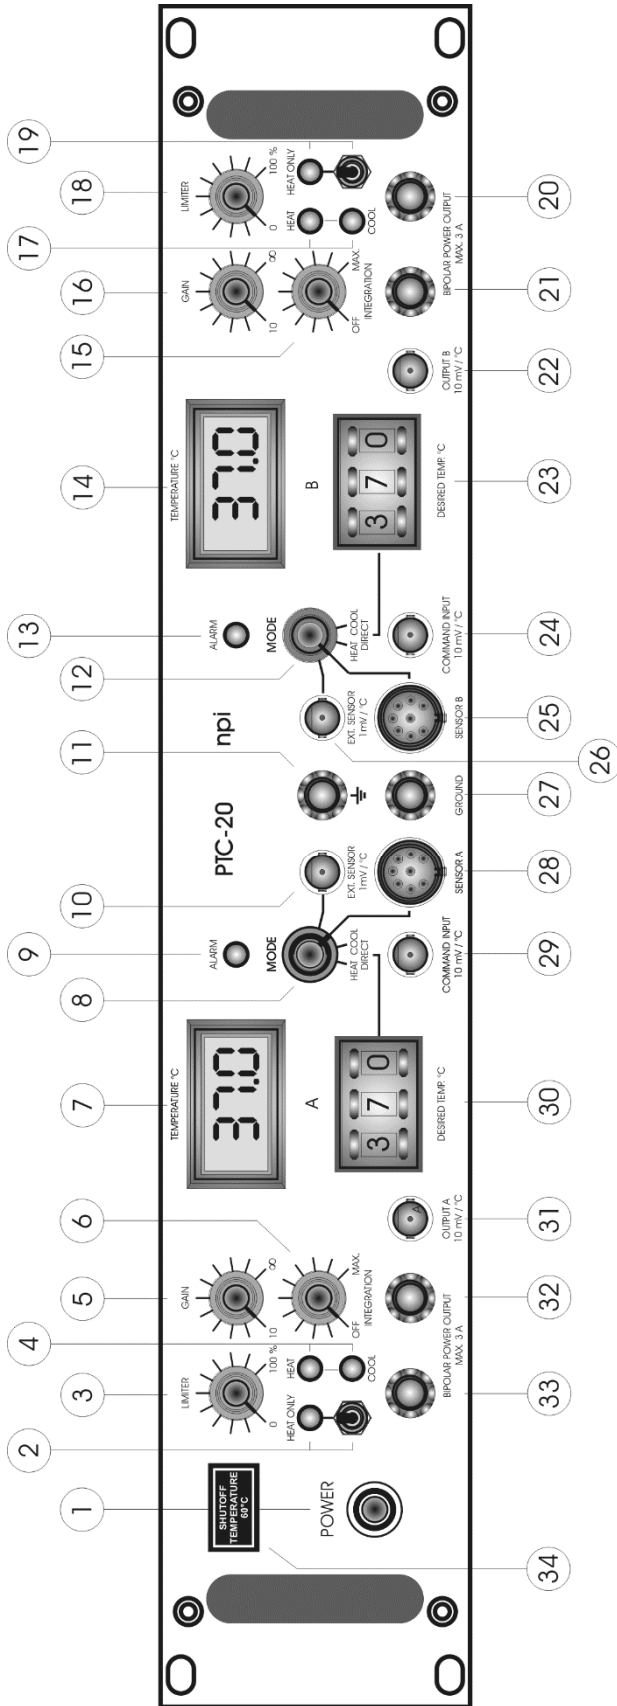

Figure 1: PTC-20 front panel view
In the following description of the front panel elements each element has a number that is related to that in Figure 1. The number is followed by the name (in uppercase letters) written on the front panel and the type of the element (in lowercase letters). Then, a short description of the element is given. Some elements are grouped in functional units (e.g. MODE of operation unit) and are described as units regardless of the order of numbers.
- Connect the “active” side to the + pole (33, Figure 1)
- Connect the “opposite” side to the - pole (32, Figure 1)
- Connect a Peltier element using an ALA DIN cable to the SENSOR connector (28, Figure 1). The right polarity is ensured automatically.
Now it is ensured that the “active” side gets hot if the MODE switch (8, Figure 1) is set to HEAT and cold if the MODE switch (8, Figure 1) is set to COOL in DIRECT mode. The right polarity is also very important for all other operation modes (see chapter 3.6).
In DIRECT mode (no temperature control): the MODE switch (**8** (channel **A**) or **12** (channel **B**), Figure 1) is set to one of the two DIRECT positions: